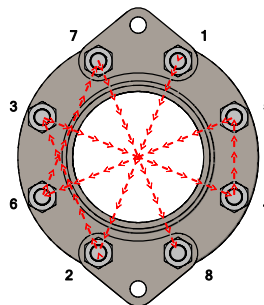

Figure 18: Sample Flange Bolting Torque Pattern
Step 6: Once the expansion joint and control rod plates are in place tighten all bolts to a “snug” tight fit before they are torqued. Torqueing should then be accomplished in steps gradually and as evenly as possible around the flange. The bolts should be tightened in an alternating sequence similar to the star pattern shown in Figure 18 to within the proper torque range specified for the style of expansion joint to be installed. The bolts are not considered tight and “locked-on” until the edge of the expansion joint flange bulges out or extrudes slightly. Refer to Appendix A for the proper ranges of torque values for the spool type expansion joints as well as further examples of the proper patterns used for torqueing the flange bolting. The use of stud bolting is acceptable as long as no more than 2-4 threads extend past the nut facing the expansion joint. Excessive amounts of threading extending toward the expansion joint can cause damage to the expansion joint as it expands resulting in a reduced service life and an increased possibility of failure.